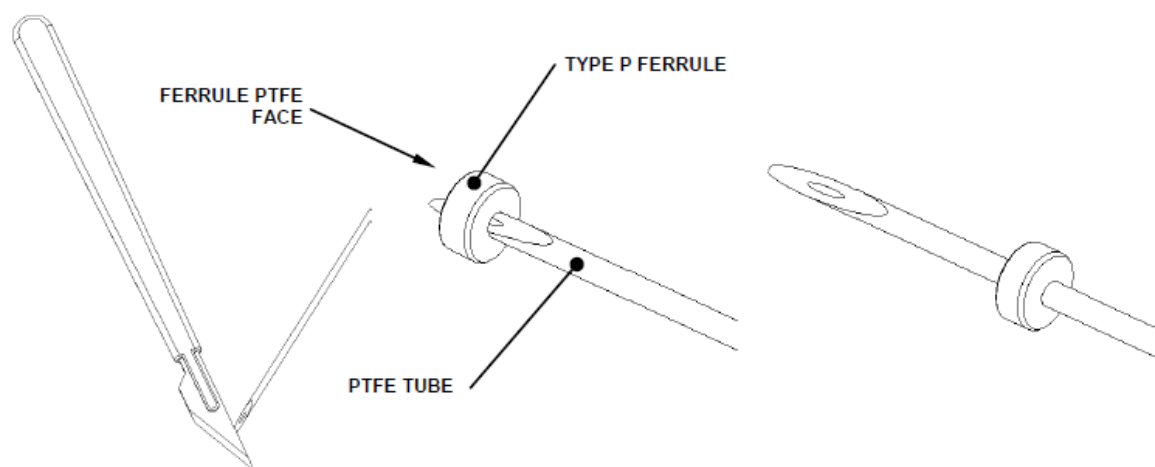

Figure U-40: Cutting the Teflon Tubing
5. Cut a 350mm length of PTFE Tubing. With a scalpel, cut the tubing to form a point (approximately 10 to 15mm long). Thread the cut (pointed) end of the tube through a Type P Ferrule ensuring that the Ferrule is orientated as shown with the PTFE face pointing out (Figure U-40).